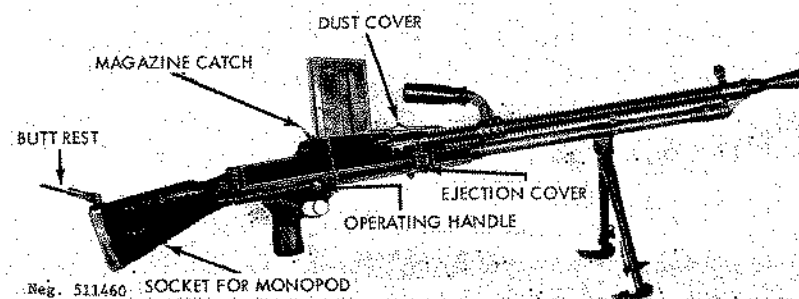
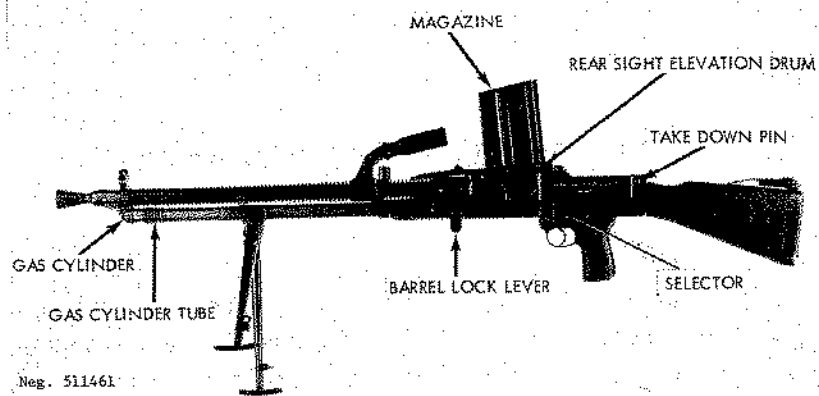
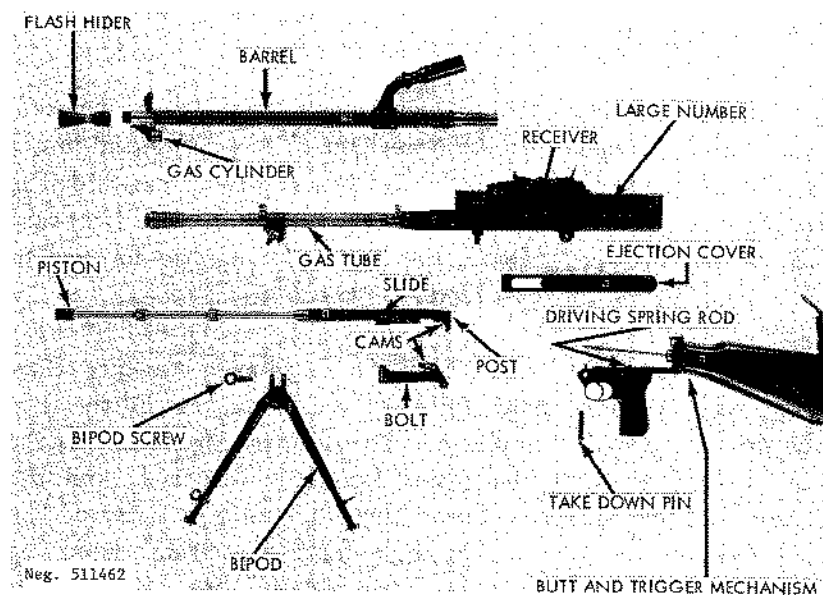
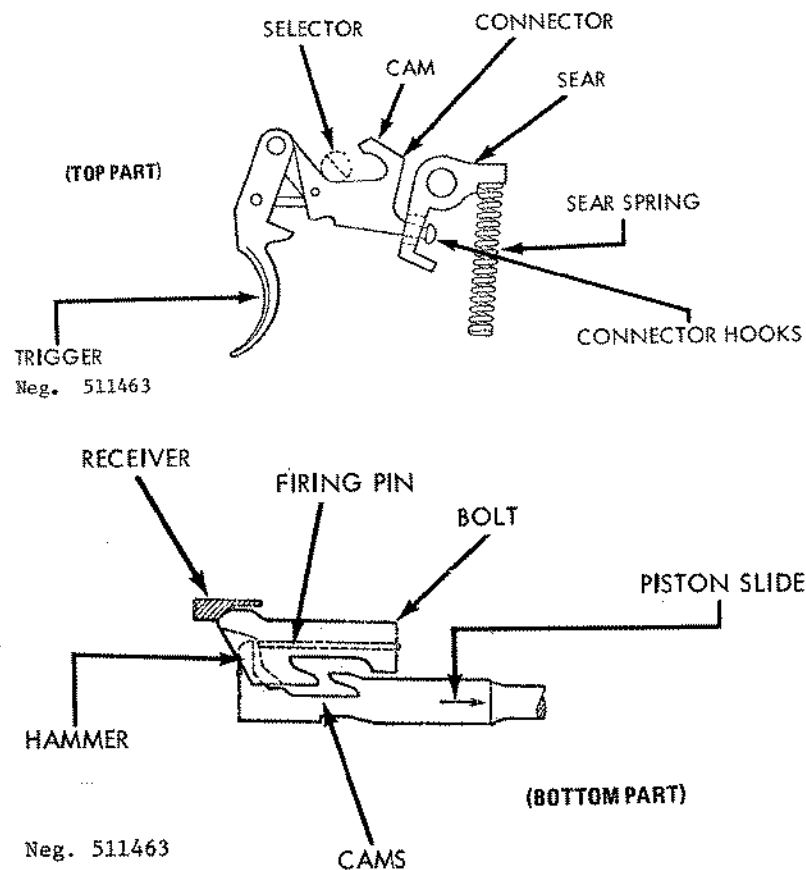

Figure 161. ZB 30 light machinegun.
Figure 162. ZB 26 light machinegun.
Figure 163. PRC copy of ZB 26, field stripped.
Figure 164. ZB30 bolt and trigger mechanism functioning.
a. The Czechoslovak-designed and -produced ZB26 and ZB30 machineguns were among the first modern light automatic guns. The two guns are almost identical externally; the ZB30 (fig 161), however, has a socket in the bottom of its butt to receive a
monopod; the ZB26 (fig 162) does not have such a fitting. Internally the basic design is similar but there are major differences in the shape of the breech bolt and piston slide, and these parts are not interchangeable between models. These air-cooled, box magazine-fed, bipod-mounted guns have many clever design features; some are retained in the design of the later
b. Copies of the ZB26 were produced in China prior to and during World War II; many of these guns were taken over by the People's Republic of China (fig 163) and are now used in Southeast Asia.
c. The Czechoslovak-produced guns can be identified by their markings. The word BRNO along with other Czechoslovak identifying marks will be on the left side of the receiver. The legend Lehky Kulomet ZB VZ 30 (or 26) is on the right side. This latter marking may be different on guns made for export sales. The older Chinese-made guns have serial numbers in large figures stamped into the left receiver wall, often preceded by a swastika (fig 163).
b. Swing the bipod legs forward until they spring apart and lock into place. They can be folded by pressing the legs together and swinging them rearward. The butt rest (fig 161) can be folded or unfolded by pulling it away from its hinge and rotating it to the desired position. This rest can be used to support the gun on the gunner's shoulder while he is firing from the prone position.
c. Slide the dust cover forward, if necessary. Tilt the magazine forward and engage its front lug with the recess in the front of the magazine opening. Rock the magazine back until the magazine catch (fig 161) snaps into place.
d. Rotate the selector (fig 162) to its middle (safe) position. Grasp the operating handle (fig 161), pull it fully rearward, and then return it forward.
e. Turn the elevation drum (fig 162) until the desired range (in hundreds of meters) appears in the opening at the rear of the drum.
f. Rotate the selector (fig 162) forward for automatic fire or rearward for semiautomatic fire. Use a normal sight picture, aim, and press the trigger to fire. The bolt will be caught to the rear when the magazine is empty.
g. Remove the magazine by pressing the magazine catch (fig 161) toward the magazine; at the same time press the magazine forward and rotate it out of the gun. Reload as described in paragraph c above. The gun does not have to be recoiled after reloading, because the follower of the empty magazine held the bolt open.
h. The ZB26 and ZB30 machineguns have quick-change barrels. Remove the magazine; press the latch on the inside of the barrel lock lever (fig 162) into the lever to release the lever from the receiver. Rotate the lever up as far as possible, and by means of the carrying handle, pull the barrel forward off the gun. Insert a replacement barrel; insure that the gas cylinder enters the gas cylinder tube (fig 162). Turn the barrel lock lever down until it locks in place; reload and resume fire. The barrel can be changed with the bolt rearward or forward.
i. Clear the gun; set the selector to its middle (safe) position; remove the magazine, and then pull the operating handle rearward. Look through the magazine opening to insure that no cartridges are present. Move the selector from safe, grasp the operating handle, press the trigger, and ease the operating handle forward. Slide the magazine opening dust cover (fig 161) rearward; then slide the ejection cover (fig 161) rearward. Set the selector back to its middle (safe) position.
b. Press out the takedown pin (fig 162) from left to right and slide the butt and trigger mechanism rearward out of the receiver.
c. Holding a hand over the rear end of the receiver, point the front end up. The slide and bolt (fig 163) will slide rearward; remove them. Pull the bolt (fig 163) rearward and up off the slide.
e. To reassemble the gun, place the bolt over the slide post (fig 163) and push the bolt forward on the slide so that the undercuts at the front of the bolt mate with their tracks on the slide. Insert the gas piston into the rear of the receiver, and when the piston is far enough in, align the ribs on the slide and receiver and push the slide into the receiver. Tilt the receiver down until the bolt and slide go forward.
b. The ZB26 and ZB30 machineguns commence their firing cycle with the slide and bolt held to the rear by the sear. The driving spring is compressed. When the trigger is pressed, the sear disengages from the slide (figs 163 and 164) and the compressed driving spring forces the slide and bolt forward. The feed ribs on the top of the bolt force a cartridge from the magazine and drive it into the chamber. The front of the bolt strikes the end of the barrel; the extractor snaps into the groove of the cartridge case; and the bolt stops. The slide continues forward, and a cam on its top side forces the rear end of the bolt upward into its seat in the receiver. The slide then continues forward a short distance and its hammer (fig 164) strikes the firing pin to ignite the cartridge.
d. As the slide moves, the cams on the slide (fig 164) contact the bolt and pull it down from its locked position; when unlocked, the bolt and slide travel rearward as a unit. The extractor pulls the fired cartridge case from the chamber and holds
e. By rotating the selector (fig 162), the ZB26 or ZB30 trigger mechanism can be set for either semi- or full automatic fire. When the selector is rotated forward to the full automatic setting, a solid section on its shaft depresses the connector, which fits through a hole in the lower arm of the sear. As the trigger is pressed, the connector moves forward; the lower hook (fig 164) engages the sear and causes it to rotate about the pin. The sear nose releases the slide, the firing cycle commences and continues until the trigger is released and the sear spring forces the sear up to intercept the slide.
f. When the selector is rotated rearward to the semiautomatic setting, the connector raises to its highest position; as the trigger is pressed, the upper hook of the connector raises to its highest position. As the slide drives forward, it hits the cam (fig 164) on the connector and forces the connector down. The hook releases the sear that, because of its spring, snaps up and catches the slide when it recoils. Thus only one shot is fired; the trigger must be released to allow the connector to move rearward and its hook to reengage the sear so that a second shot can be fired.
g. When the selector is rotated to its middle or safe position, the hooks are positioned centrally in the hole in the sear (fig 164). Thus, when the trigger is pressed, the connector hooks do not activate the sear to release the slide.